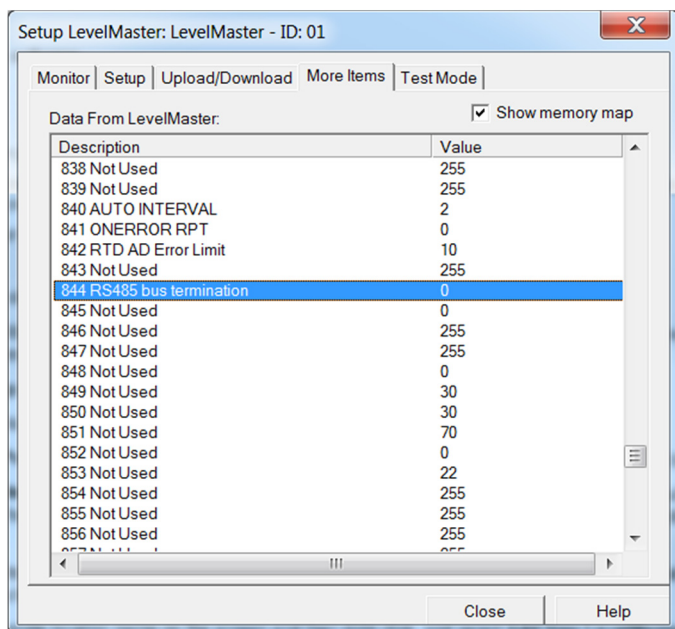

Figure 9: RS485 termination
4. Scroll down to locate the 844 memory address. The description of this memory location is RS485 bus termination (Figure 9).